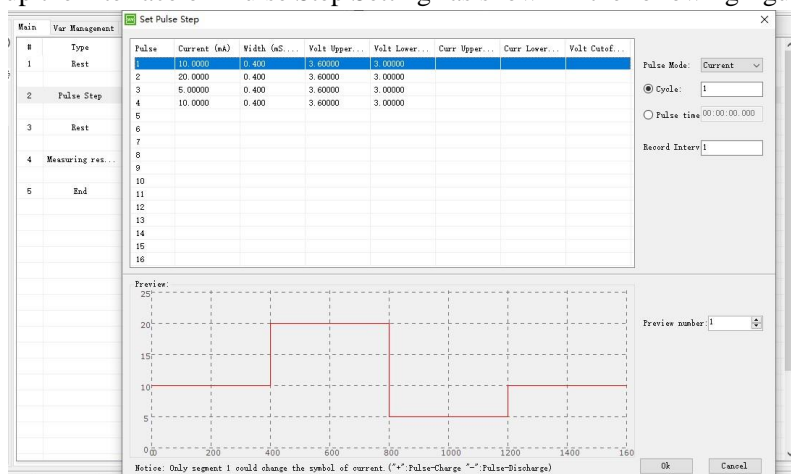

Figure 4-34 Set pulse step window
- ① Select Pulse step in the step editor.
- ② Users can set the pulse step parameters according to their needs by clicking on "Step parameter" or "Value" to pop up the interface of "Pulse Step Setting" as shown in the following figure. (Figure 4-34)
Periodic recording interval: Data is recorded once every interval, as shown in the figure 4-34. In 100 periods, 100 pieces of data can be recorded.